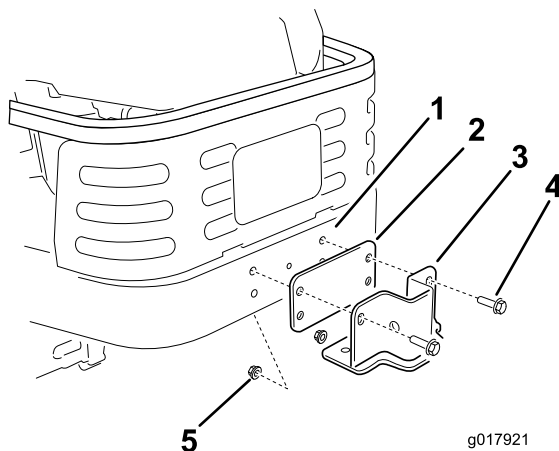

Figure 4
2. Install the support spacer plate and the support bracket to the machine frame as shown in Figure 4. Secure the plate and bracket to the frame using two bolts (5/16 x 2-1/2 inch) and two lock nuts (5/16 inch).